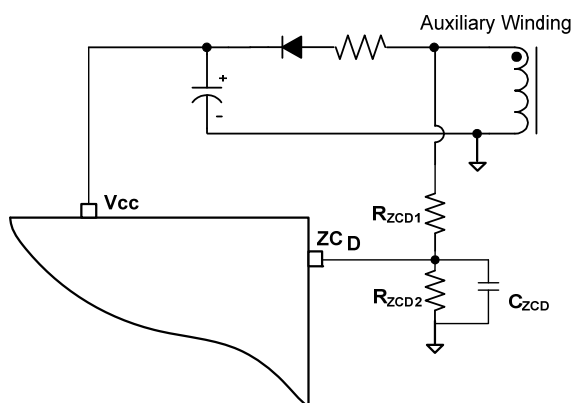

Figure 5: Zero-Current Detection
In CC mode, output over-voltage protection (OVP) can prevent the components from damage in an over-voltage condition. The positive plateau of the auxiliary winding voltage is proportional to the LED output voltage. OVP uses the auxiliary winding voltage instead of monitoring the output voltage directly. Once the ZCD voltage is higher than 4.5V within four consecutive periods, the OVP signal is triggered and latched, gate driver is turned off, and the IC works in quiescent mode (see Figure 5). V_{CC} drops below UVLO, which makes the IC shut down and the system restart again. The output OVP setting point can be calculated with Equation (2):